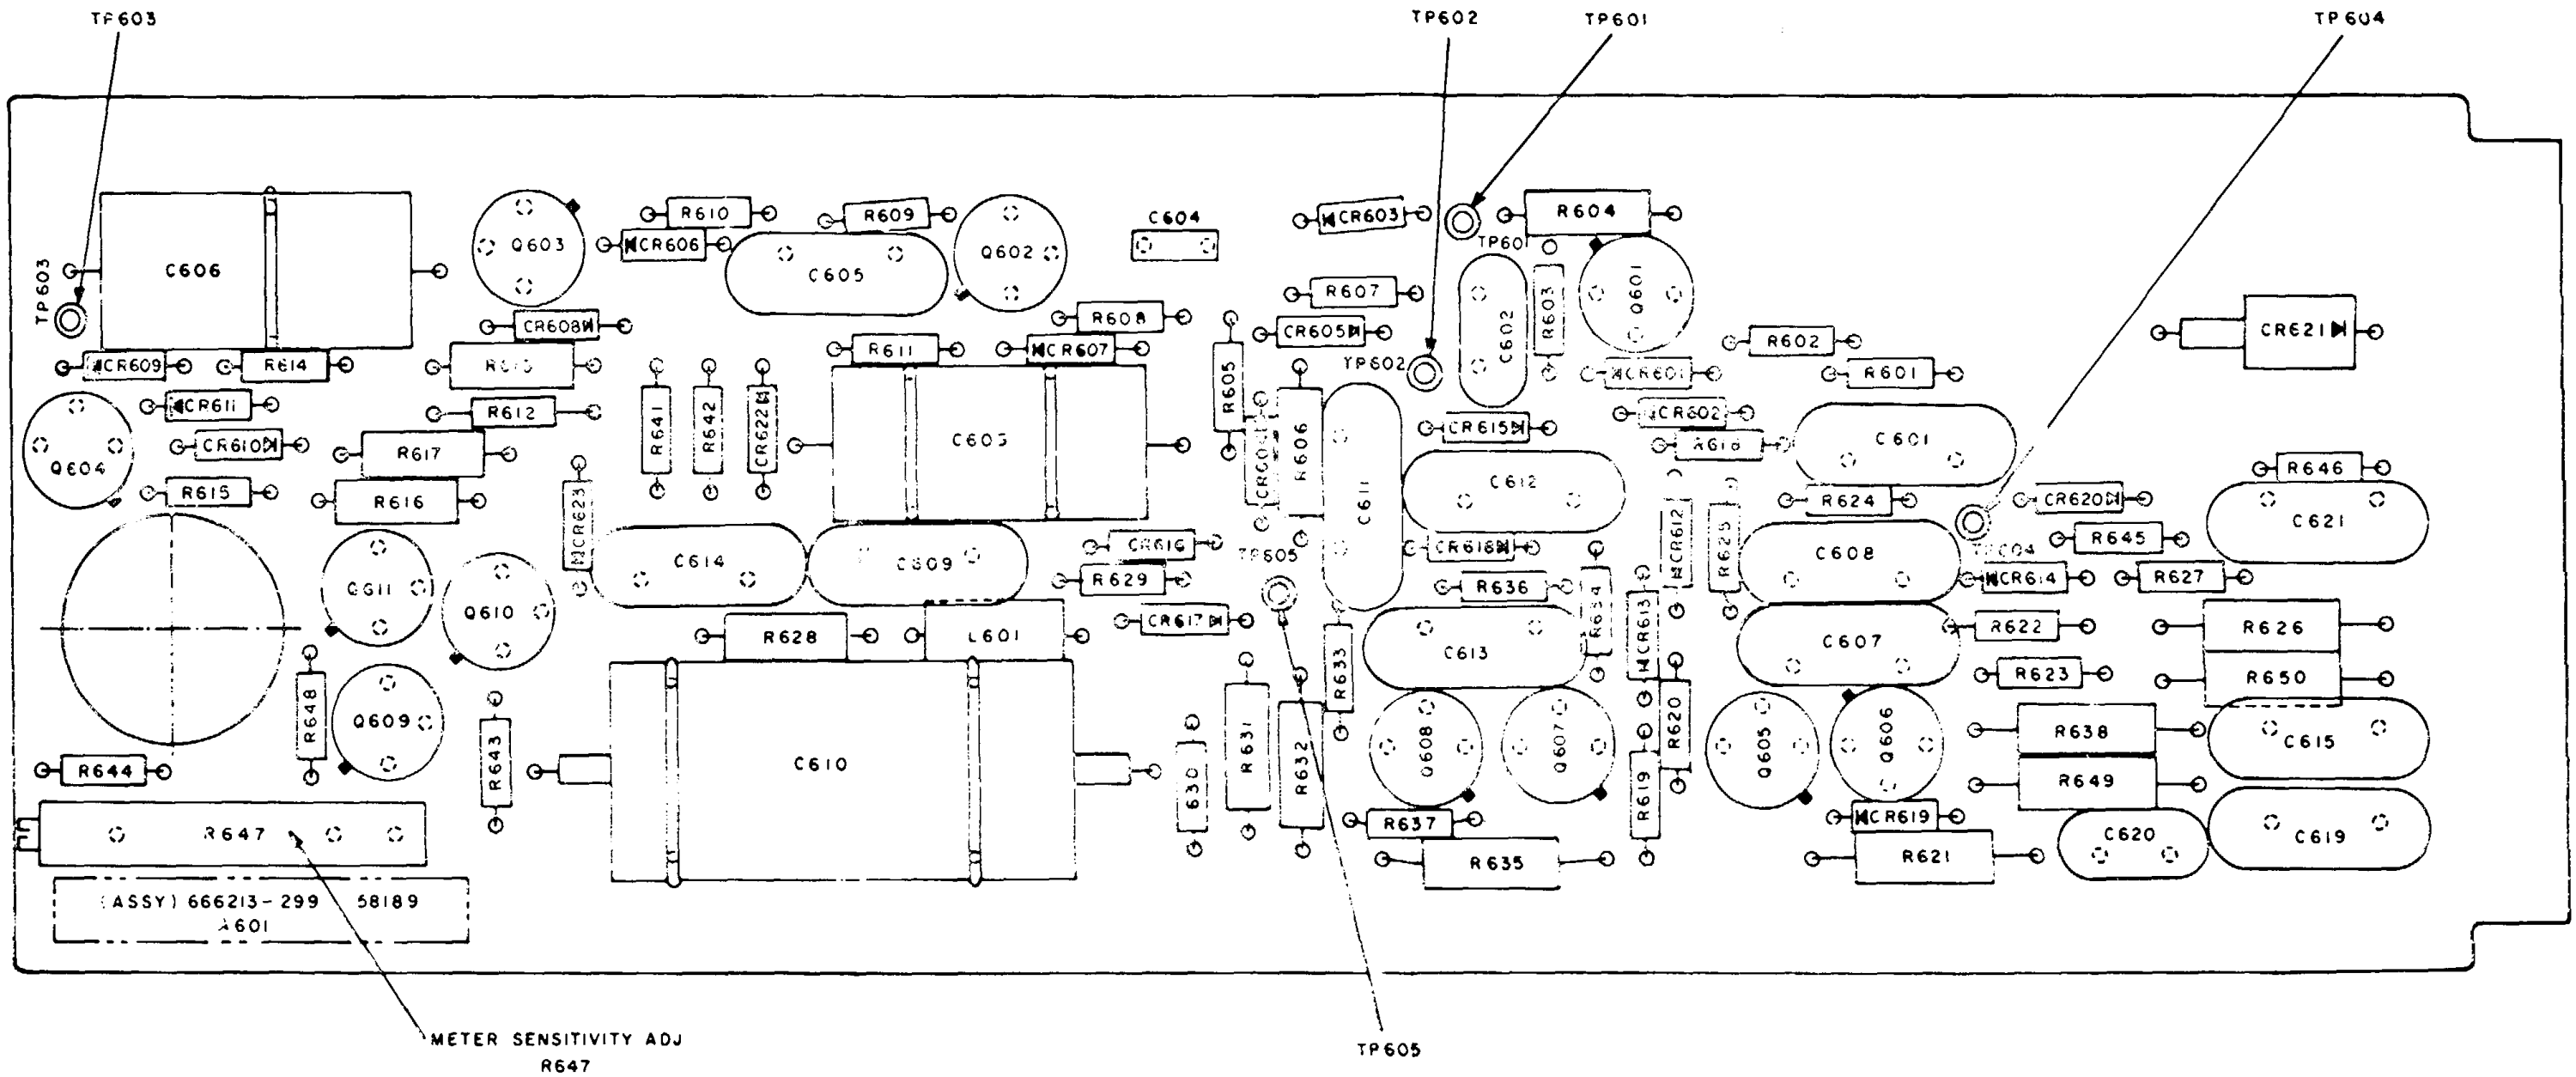

Figure 7-6. Video Board A601, Location of Test Points and Adjustments
b. Connect oscilloscope probe to test point TP0.4 on video board A601. Gain access to TP604 from the semicircular cutout in the front of the potentiometer bracket. Synchronize the oscilloscope from the pulse generator. (See figure 7-6 for location of TP604.)
b. Synchronize oscilloscope with external positive polarity from TP605 on video board A601. (Gain access thru circular cutout in potentiometer bracket, refer to figure 7-6.) Adjust oscilloscope sweep speed to view pulse pair.
a. Connect oscilloscope probe to TP605. (Refer to figure 7-6.)